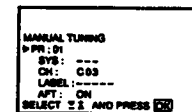

Fig. 12
- 5 Press Δ or ∇ until "---" appears in the SYS position. (See Fig. 12.)